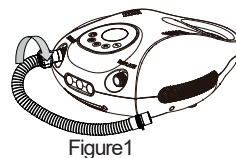
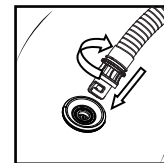

Figure1
Figure2
- * Connect the end with Inlet/ Outlet connector of the hose with the air pump inflation inlet , and twist clockwise to tighten it (Figure1).
- * For Sea Eagle inflatables, choose the hook-in style adapter. Place the thinnest milky-white silicon gasket on the adapter, remove any other gasket(Figure 1). Attach adapter to hose and turn it clockwise to tighten. Push adapter into valve and turn it clockwise to lock it in place(Figure 2).